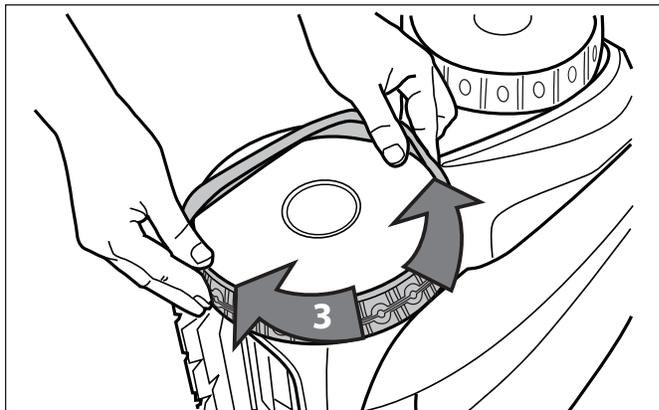

Figure 39. Work the Tire On Around the Wheel
- Work the tire onto the wheel and verify the rib of the tire is positioned properly within the groove of the wheel. Refer to Figure 39